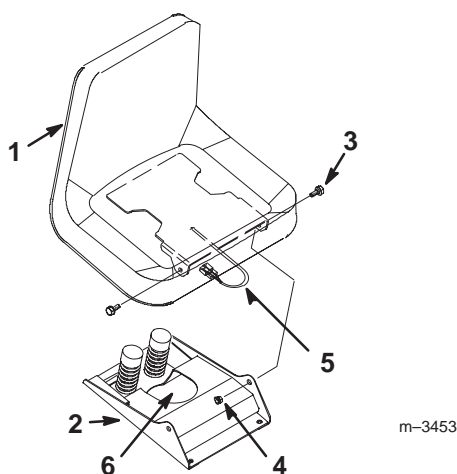

Figure 6
1. Mount the seat to the seat base using two 5/16 in. shoulder bolts and locknuts (Fig. 6).
2. Insert the seat switch wire through the center opening in the seat base (Fig. 6).